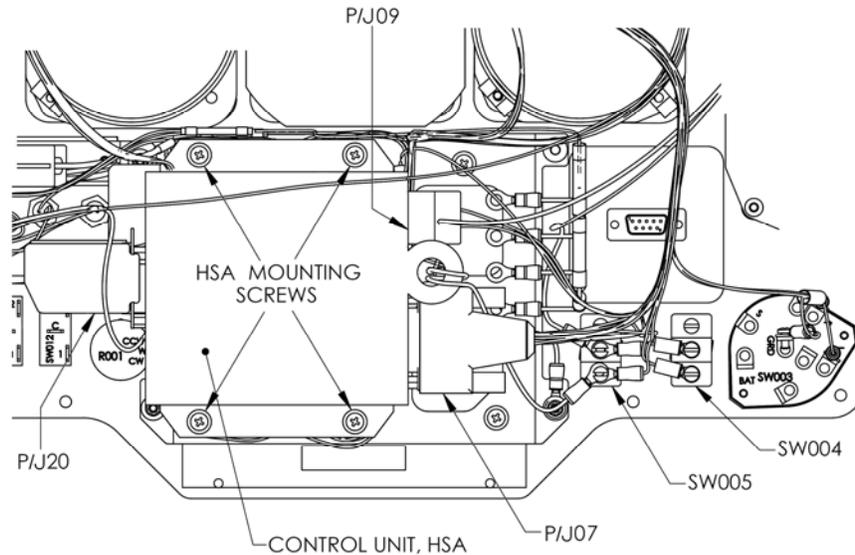

Figure 77-6 HSA Control Unit Showing the Mounting Screws, Connectors and Switch SW005
9. Disconnect P/J7, P/J9, and P/J20 from the HSA module. See Figure 77-6 for location of these connectors.
12. Connect P/J7, P/J9, and P/J20 from the HSA module. See Figure 77-6 for location of these connectors.